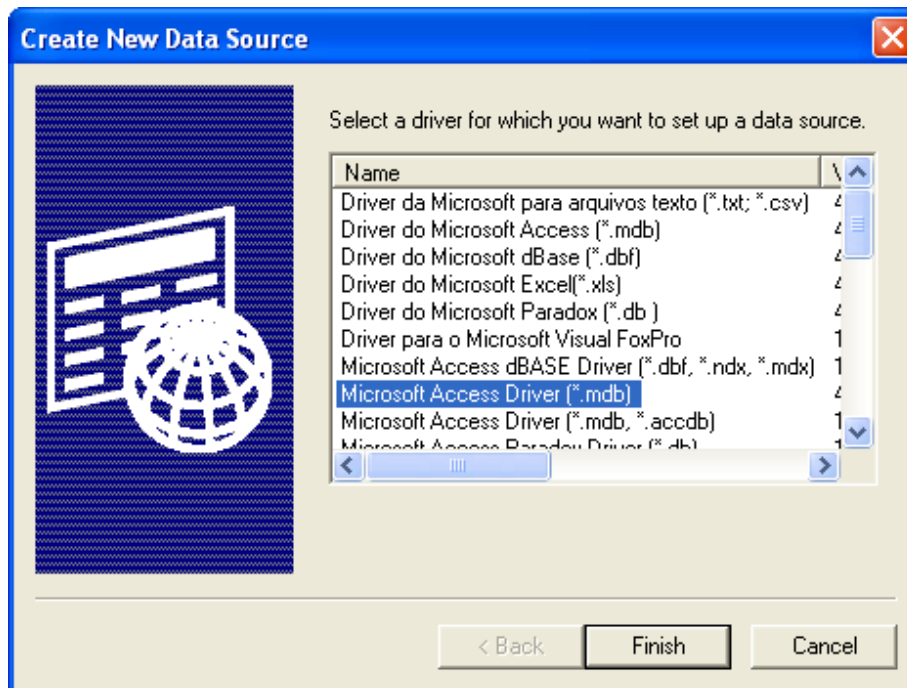

Figure 95 - Create New Data Source Window
6. The **Create New Data Source** window (Figure 95) appears.